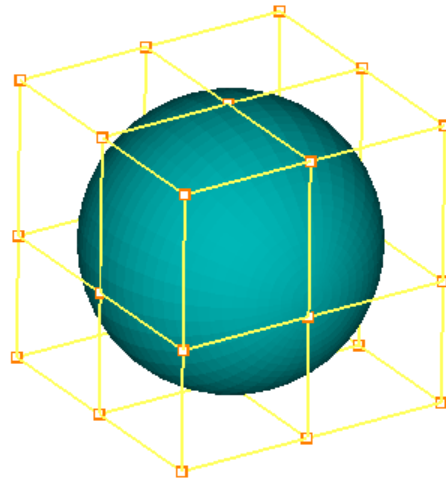

Figure 4.120: Topology where nesting cannot be applied
2. Nesting cannot be applied for 3-D as it may encounter a singular point. As shown in Figure 4.120, it cannot be applied along 3D sheet.